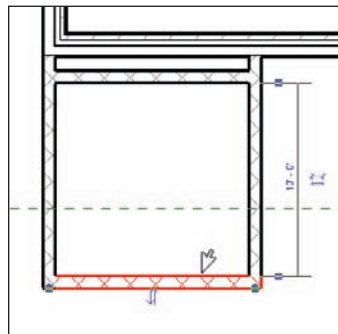

FIGURE 2.28 The shaft wall
We need one more shaft wall to create a separation between the exterior walls and the shaft, as shown in Figure 2.28. Perform these steps:
6. Press Esc twice. Figure 2.28 shows the shaft wall. Make sure you check your dimensions before proceeding.